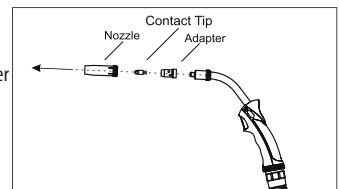

Figure 13: Separation of Nozzle and Contact Nozzle from the Torch
- To change the spiral, remove the nozzle, contact nozzle and adapter respectively (Figure 13).